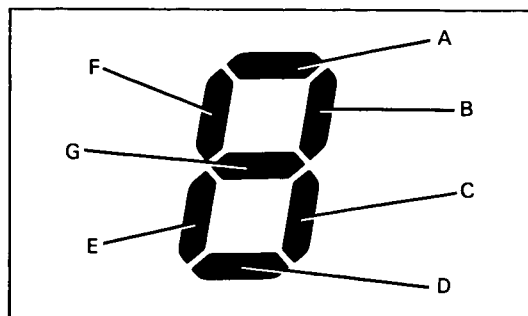

Figure 5-1. Seven Segment Display
G. Observe the rightmost seven segment display while pressing the "Range Up" key. Segment "B" of the display (see Figure 5-1), should toggle.
H. Press the "Range Down" key to verify that it toggles segment "C" (see Figure 5-1), of the seven segment display.